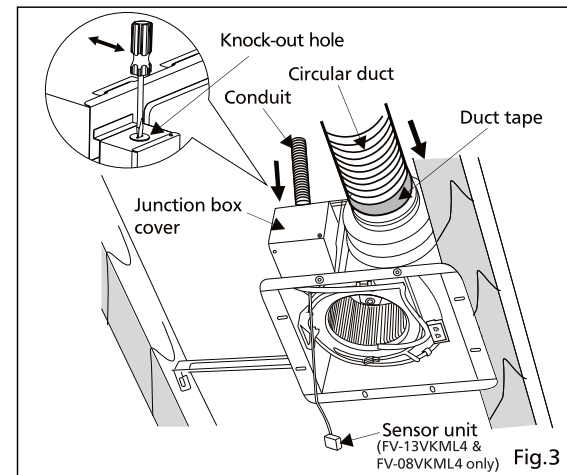

Fig.3
4. Install a circular duct and secure it with clamps, or wire ties and seal it with mastic or approved duct tape. 4 inches circular duct or 6 inches circular duct is needed to connect to relevant part of common adaptor. (Fig.3)
5. Remove junction box cover and secure conduit or stress relief to junction box knock-out hole. (Fig.3)